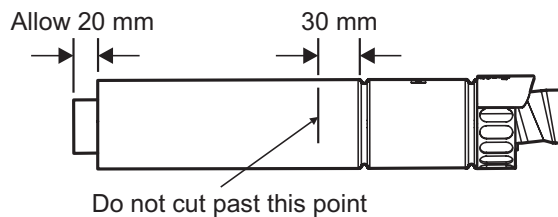

Fig. 15
4.7 REDUCING THE FLUE - Fig. 15
The flue can be cut to the required length, providing the dimensions shown in Fig. 15 are maintained.